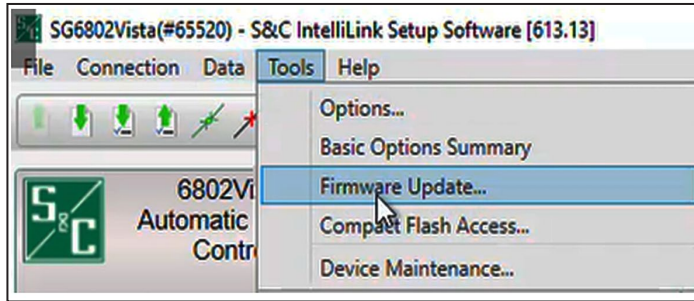

Figure 26. The Tools>Firmware Update menu option.
STEP 6. In the **Tools** menu on the menu bar, click on the **Firmware Update** menu option. See Figure 26.